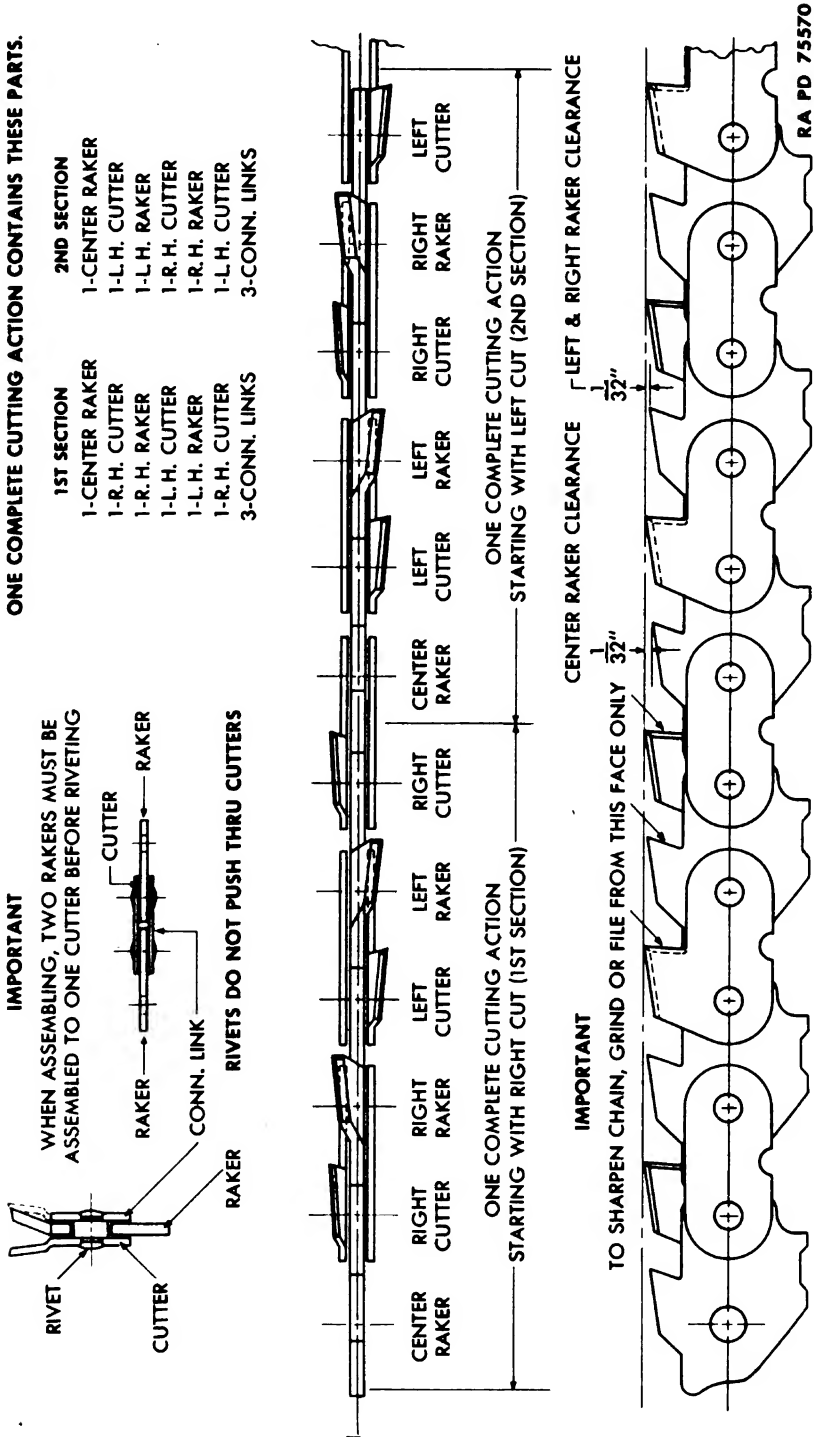

Figure 53 — Saw Chain Reconditioning Data
c. Sharpening Saw Chain (fig. 53). File or grind front of each cutting edge. Take care to preserve original angle.
d. Resetting Saw Chain (fig. 53). If chain binds in a straight cut, reset cutting teeth. Bend cutter teeth outward so wider cut will result. Use a setting tool to keep set uniform. Use only enough set to clear the chain. Too much set reduces efficiency.
e. Jointing Saw Chain (fig. 53). Rakers should be about $\frac{1}{32}$ inch lower than cutters. Measure raker clearance with flat gage furnished with outfit. If necessary, grind or file top rakers to obtain clearance.
f. Replacement of Damaged Saw Chain Teeth (fig. 53).
(1) REMOVE DAMAGED CUTTER.